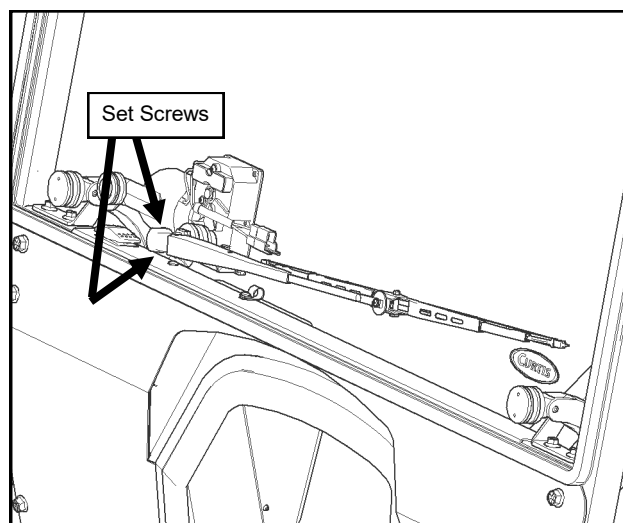

Fig. 23.3 (Wiper Arm and Blade)
- 23.3 Install the wiper arm onto the wiper motor so that the wiper is horizontal. See Figure 23.3. Tighten the Allen Screws.